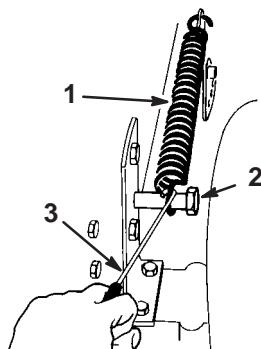

Figure 36
4. Remove the height-of-cut lift assist spring from the retaining bolt (Fig. 36), using the spring tool provided with the machine. The spring is between the frame and the right rear wheel.
13. Move the height-of-cut lever into the "D" notch. Hook the lift assist spring onto the retaining bolt for storage (Fig. 36).